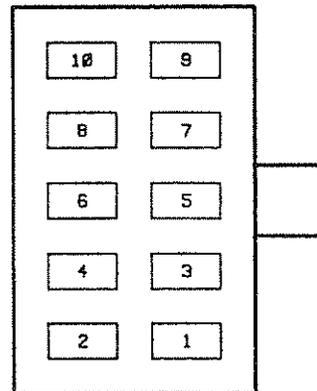

Figure 2-4. A1J18 and A1J19 Pin Identification Drawing
11. At A1J18 or A1J19, measure the voltages as indicated in the table. See figure 2-4.